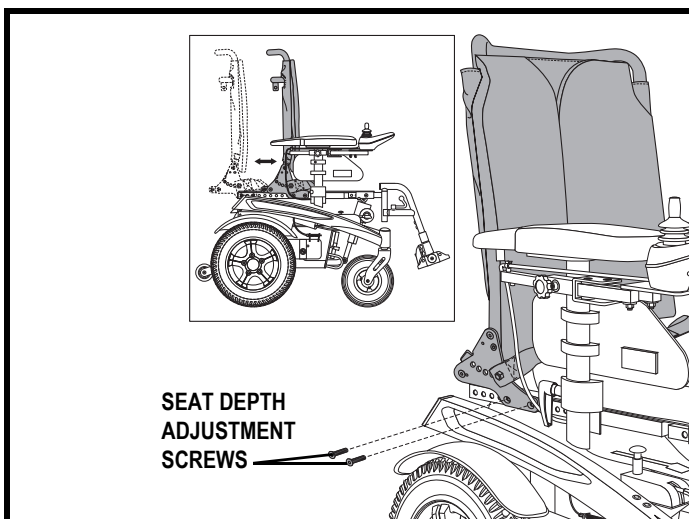

Figure 14. Seat Depth Adjustment
2. Remove both seat depth adjustment screws from each side of the seat. **See figure 14.**